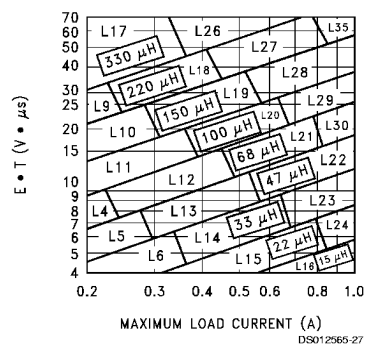

FIGURE 7. LM2595-ADJ
2. Inductor Selection (L1) A. Calculate the inductor Volt • microsecond constant E • T (V • μs), from the following formula: $E \cdot T = (V_{IN} - V_{OUT} - V_{SAT}) \cdot \frac{V_{OUT} + V_D}{V_{IN} - V_{SAT} + V_D} \cdot \frac{1000}{150 \text{ kHz}} (V \cdot \mu s)$ where V_{SAT} = internal switch saturation voltage = 1V and V_D = diode forward voltage drop = 0.5V B. Use the E • T value from the previous formula and match it with the E • T number on the vertical axis of the Inductor Value Selection Guide shown in Figure 7. C. on the horizontal axis, select the maximum load current. D. Identify the inductance region intersected by the E • T value and the Maximum Load Current value. Each region is identified by an inductance value and an inductor code (LXX). E. Select an appropriate inductor from the four manufacturer's part numbers listed in Figure 8. 3. Output Capacitor Selection (C_{OUT}) A. In the majority of applications, low ESR electrolytic or solid tantalum capacitors between 47 μF and 330 μF provide the best results. This capacitor should be located close to the IC using short capacitor leads and short copper traces. Do not use capacitors larger than 330 μF. For additional information, see section on output capacitors in application information section. B. To simplify the capacitor selection procedure, refer to the quick design table shown in Figure 3. This table contains different output voltages, and lists various output capacitors that will provide the best design solutions. C. The capacitor voltage rating should be at least 1.5 times greater than the output voltage, and often much higher voltage ratings are needed to satisfy the low ESR requirements needed for low output ripple voltage. 4. Feedforward Capacitor (C_{FF}) (See Figure 1) For output voltages greater than approximately 10V, an additional capacitor is required. The compensation capacitor is typically between 50 pF and 10 nF, and is wired in parallel with the output voltage setting resistor, R₂. It provides additional stability for high output voltages, low input-output voltages, and/or very low ESR output capacitors, such as solid tantalum capacitors. $C_{FF} = \frac{1}{31 \times 10^3 \times R_2}$ This capacitor type can be ceramic, plastic, silver mica, etc. (Because of the unstable characteristics of ceramic capacitors made with Z5U material, they are not recommended.)	2. Inductor Selection (L1) A. Calculate the inductor Volt • microsecond constant (E • T), $E \cdot T = (28 - 20 - 1) \cdot \frac{20 + 0.5}{28 - 1 + 0.5} \cdot \frac{1000}{150} (V \cdot \mu s)$ $E \cdot T = (7) \cdot \frac{20.5}{27.5} \cdot 6.67 (V \cdot \mu s) = 34.8 (V \cdot \mu s)$ B. E • T = 34.8 (V • μs) C. I_{LOAD(MAX)} = 1A D. From the inductor value selection guide shown in Figure 7, the inductance region intersected by the 35 (V • μs) horizontal line and the 1A vertical line is 100 μH, and the inductor code is L29. E. From the table in Figure 8, locate line L29, and select an inductor part number from the list of manufacturers part numbers. 3. Output Capacitor Selection (C_{OUT}) A. See section on C_{OUT} in Application Information section. B. From the quick design table shown in Figure 3, locate the output voltage column. From that column, locate the output voltage closest to the output voltage in your application. In this example, select the 24V line. Under the output capacitor section, select a capacitor from the list of through hole electrolytic or surface mount tantalum types from four different capacitor manufacturers. It is recommended that both the manufacturers and the manufacturers series that are listed in the table be used. In this example, through hole aluminum electrolytic capacitors from several different manufacturers are available. 82 μF, 35V Panasonic HFQ Series 82 μF, 35V Nichicon PL Series C. For a 20V output, a capacitor rating of at least 30V or more is needed. In this example, either a 35V or 50V capacitor would work. A 35V rating was chosen, although a 50V rating could also be used if a lower output ripple voltage is needed. Other manufacturers or other types of capacitors may also be used, provided the capacitor specifications (especially the 100 kHz ESR) closely match the types listed in the table. Refer to the capacitor manufacturers data sheet for this information. 4. Feedforward Capacitor (C_{FF}) The table shown in Figure 3 contains feed forward capacitor values for various output voltages. In this example, a 1 nF capacitor is needed.